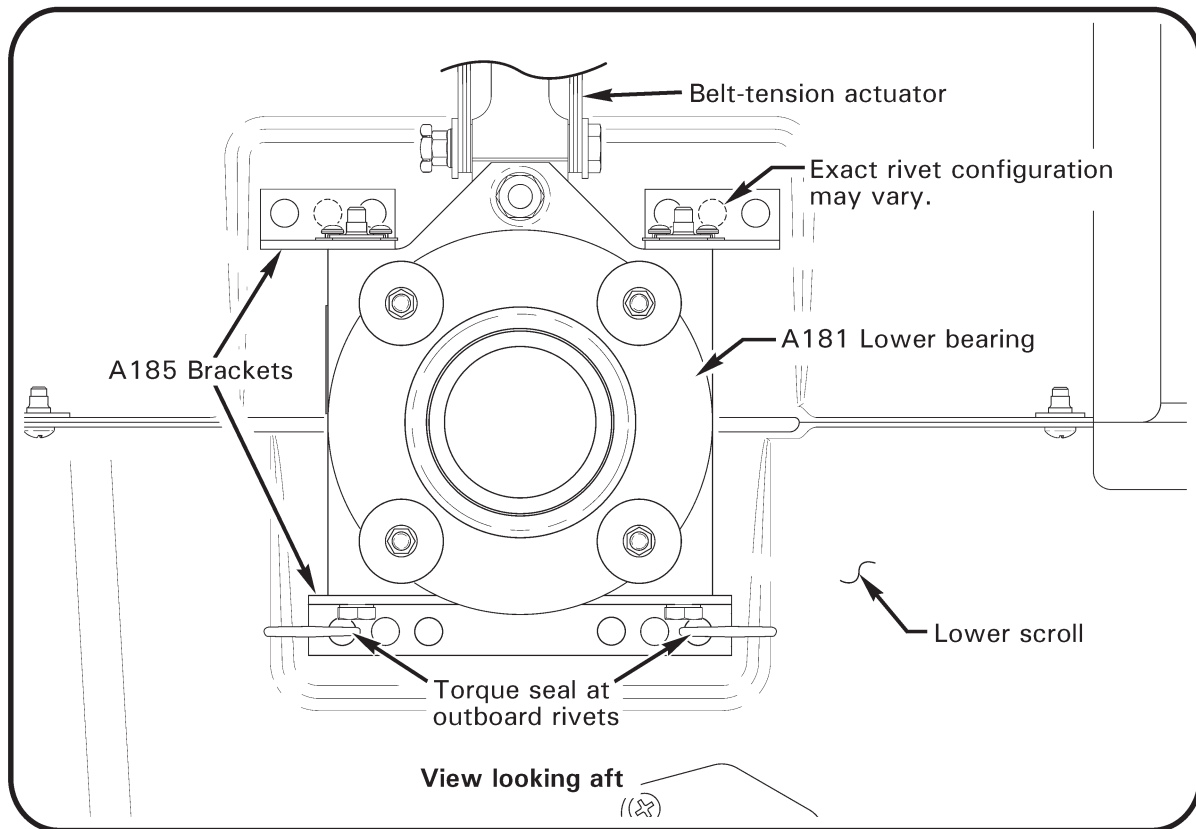

FIGURE 2-4D ACTUATOR LOWER BEARING A185 BRACKETS
2.410 Inspection Procedures and Checklist (continued)**8. Remove Tailcone Fairing (8) (continued)**
**Lower Bearing Brackets:** Refer to Figure 2-4D. Visually inspect A185 brackets and attaching rivets for evidence of fretting or looseness. If evidence of looseness is found repair per R22 SL-74A. On lower A185 bracket, apply torque seal in a horizontal stripe across both outboard rivets to lower scroll to facilitate future inspections.